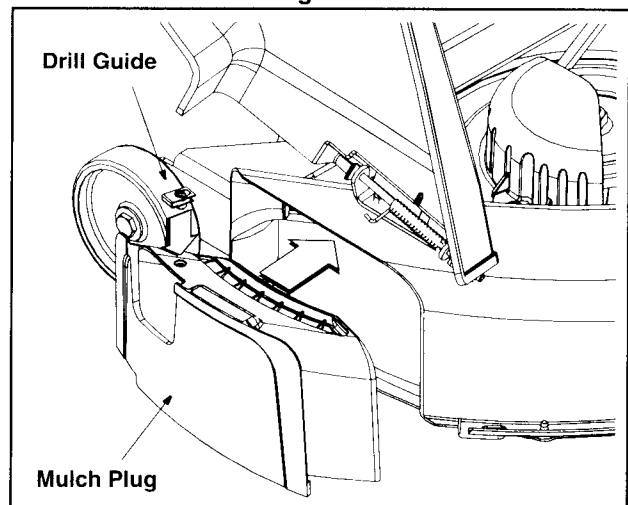

Figure 3
1. Place the mulch plug drill guide included with this kit in place **on the surface** (NOT over the lip) of the mulch plug as shown in Figure 3.